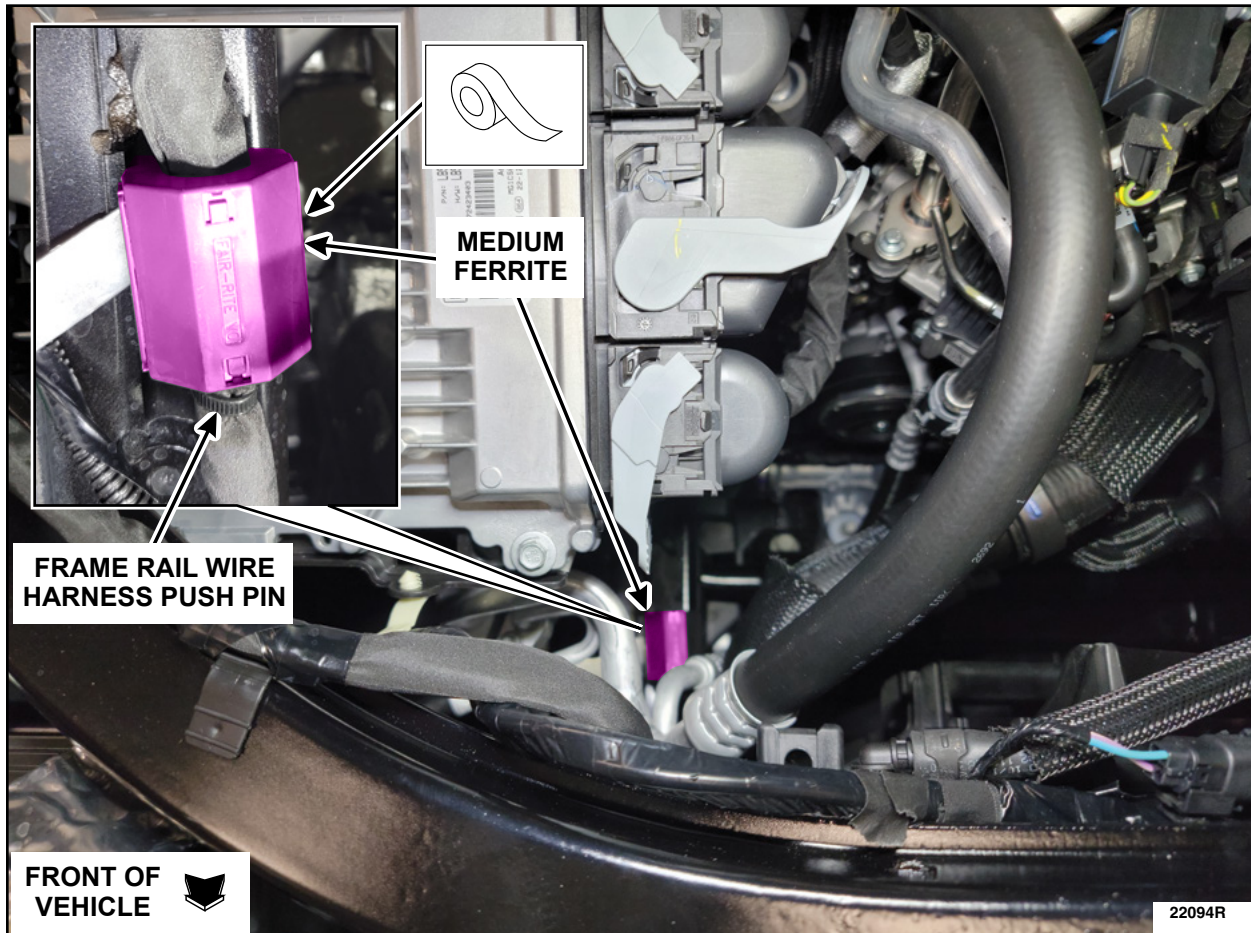

FIGURE 19
25. Locate the passenger side frame rail wire harness push pin towards the front of the vehicle. Install a **MEDIUM** ferrite (item B) onto the wire harness right behind the frame rail wire harness push pin. See Figure 19. Apply 3 wraps of Coroplast® tape to the ferrite to secure it closed.